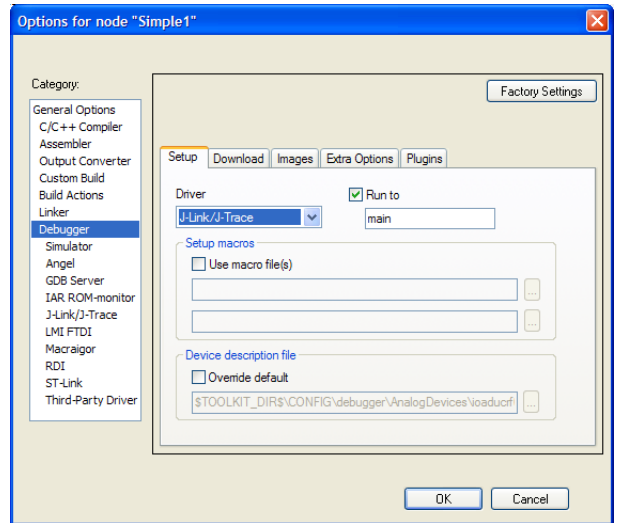

Figure 27. Setting Up the Driver
5. Click **Debugger** in the **Category** box, and select **J-Link/J-Trace** from the **Driver** box and **Run to main** in the **Setup** tab as shown in Figure 27.